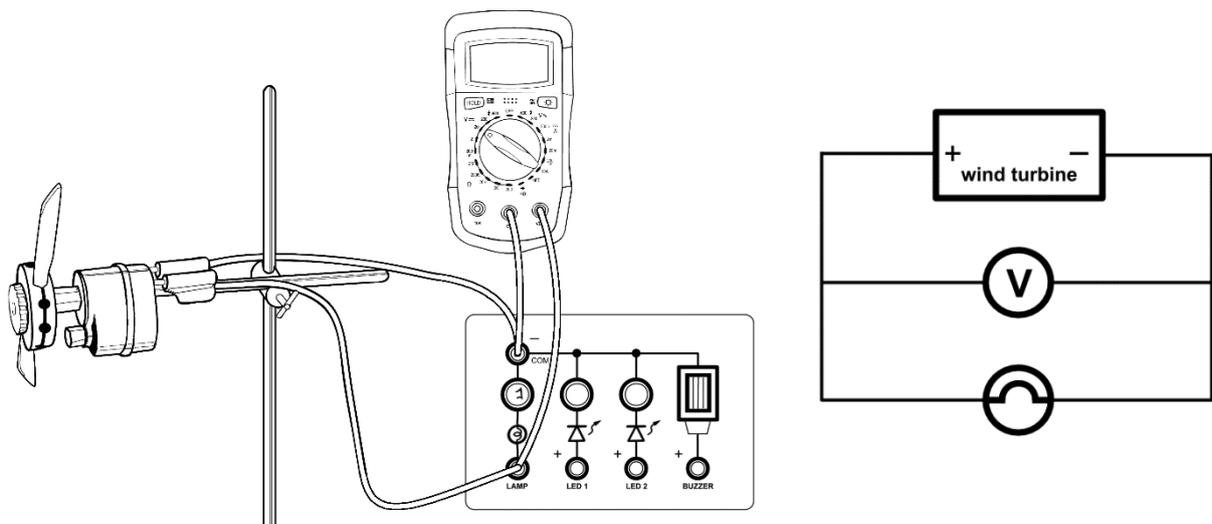
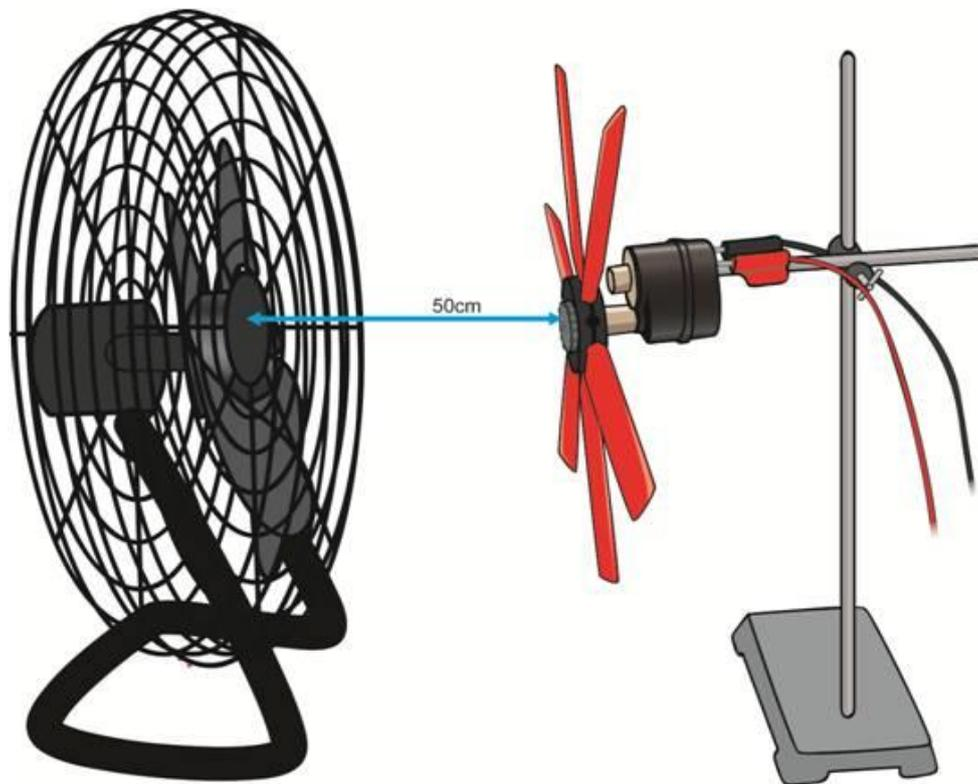

Figure 1. The set up
Figure 3. The correct relative positions of the fan and the turbine
1. Make sure the six blades are tight in the hub of the turbine and are all at 45° to the face of the hub, like those in Figure 3 below. Then set up the model wind turbine in the stand, as shown in Figure 1. Make sure that the hub is tight on the motor drive shaft and that you are using the bottom shaft, as shown in Figure 1, which means the model wind turbine will be ungeared.
2. Connect the circuit as shown in Figure 1, with the plugs inserted into the LAMP sockets of the STELR testing station.
3. Place the three-speed fan on the bench so that the front of the fan is 50 cm from the front of the hub on the wind turbine, as shown in Figure 3. **Do not turn on the fan, yet!**
4. Raise or lower the turbine on the retort stand so the centre of the wind turbine's hub is at the same height above the bench as the centre of the fan's hub. The two hubs should be in a direct line with each other, as in Figure 3.
2. Add six more blades to the hub so you now have 12 blades equally spaced, still set at 45°. Tighten the screw so the blades are firmly held again, insert the hub and blades back onto the bottom turbine shaft, as shown in Figure 1. Make sure that the hub is tight on the shaft.